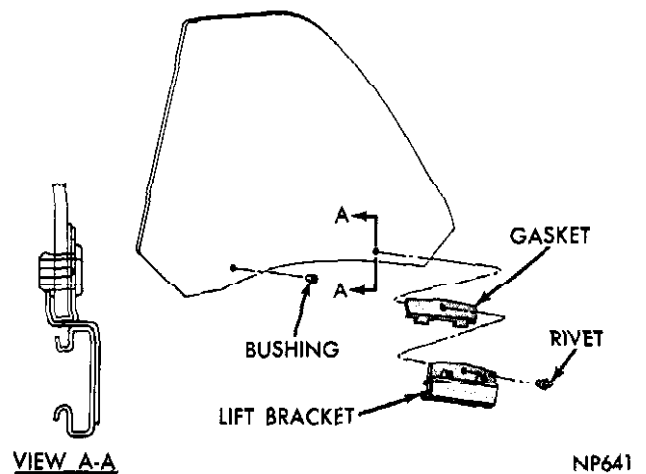

Fig. 35—Quarter Glass Assembly—Sedan
- (1) If glass is to be replaced, remove lift bracket (Fig. 35) and attach it to new glass.
- (2) Roll regulator down until front regulator stud is accessible at front access opening.
- (3) Lower quarter glass and bracket to bottom of quarter panel and install outer belt weatherstrip.
- (4) Raise glass and position lift bracket over regulator arm roller.
- (5) Insert regulator front arm stud into bushing